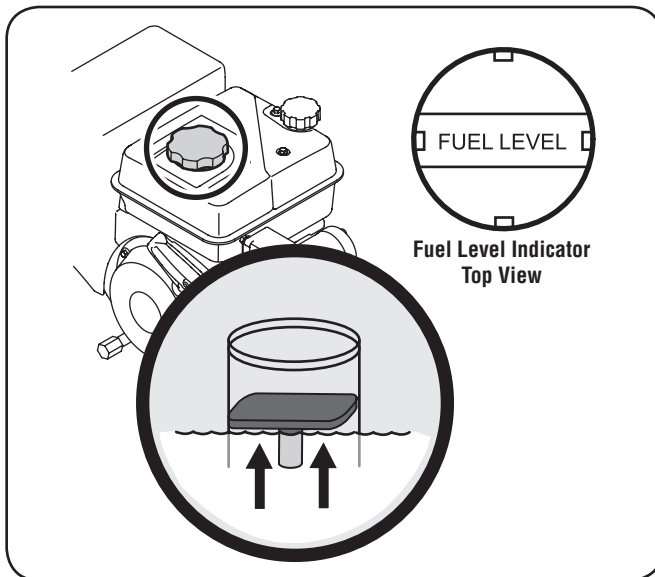

Figure 3-10
2. A fuel level indicator is located in the fuel tank. Fill tank until fuel reaches the fuel level indicator, Fig. 3-10. Be careful not to overfill.